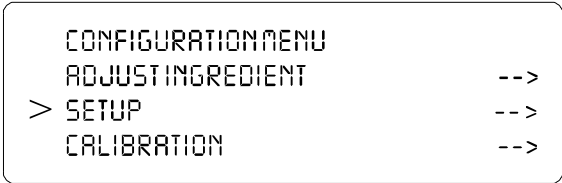

FIG. 150: CONFIGURATION MENU/SELECTING SETUP
Step 1. At the front panel click on the Setup/3 button. The Configuration Menu appears. (See Fig. 150)